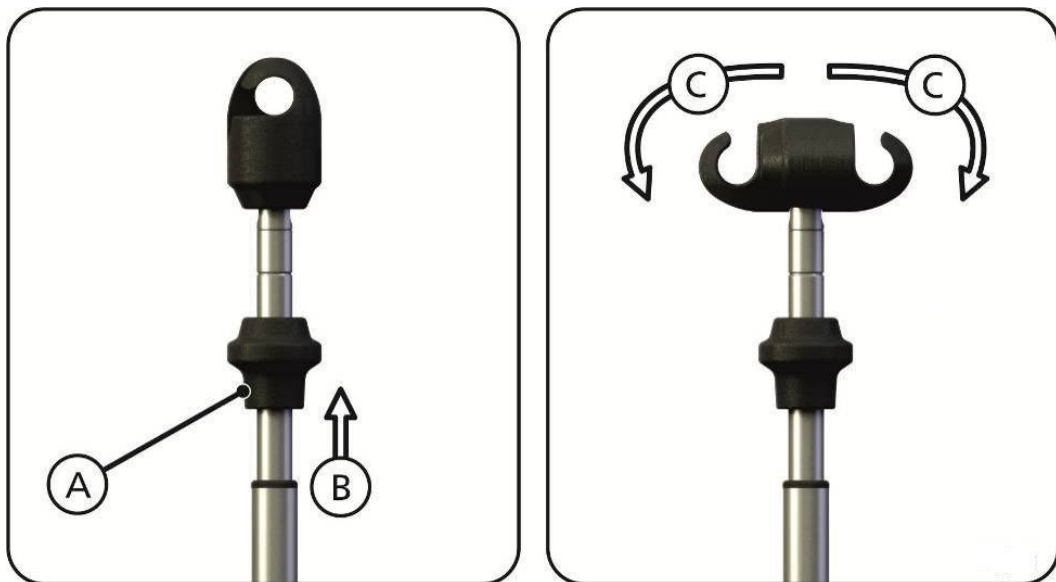

Fig. 13
To adjust the height of the I.V. pole, as illustrated in Fig. 13; grasp the locking mechanism (A) and using your thumb, lift the mechanism to release the lock and move the pole up or down to the required height (B); release the mechanism to lock the pole in position.